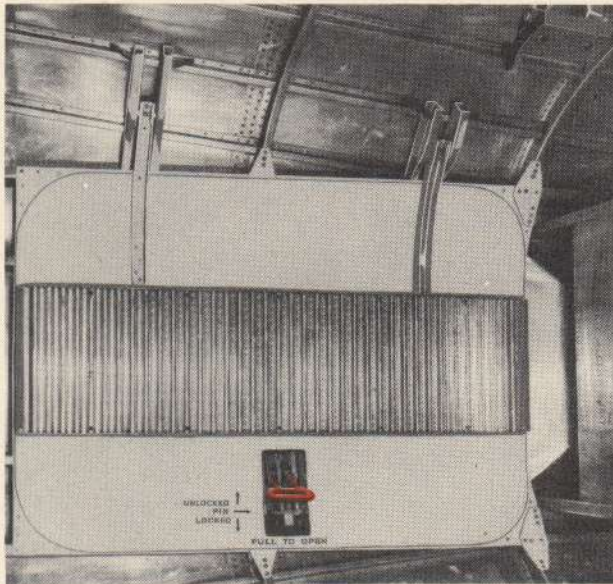

Figure 28—Main Entrance Door
a. **MAIN ENTRANCE DOOR.**—The main entrance door (see figure 28) is located on the bottom of the fuselage in the aft section of the rear fuselage compartment. There is an outside and inside latch on the left center of the door. The door swings inward on a side hinge and is fastened in the extreme open position on the right with a catch attached to the right side of the fuselage. This door may only be used while the airplane is on the ground, or as an emergency exit when the airplane is in the air. This door must be closed in the event of a forced descent on water (DITCHING).